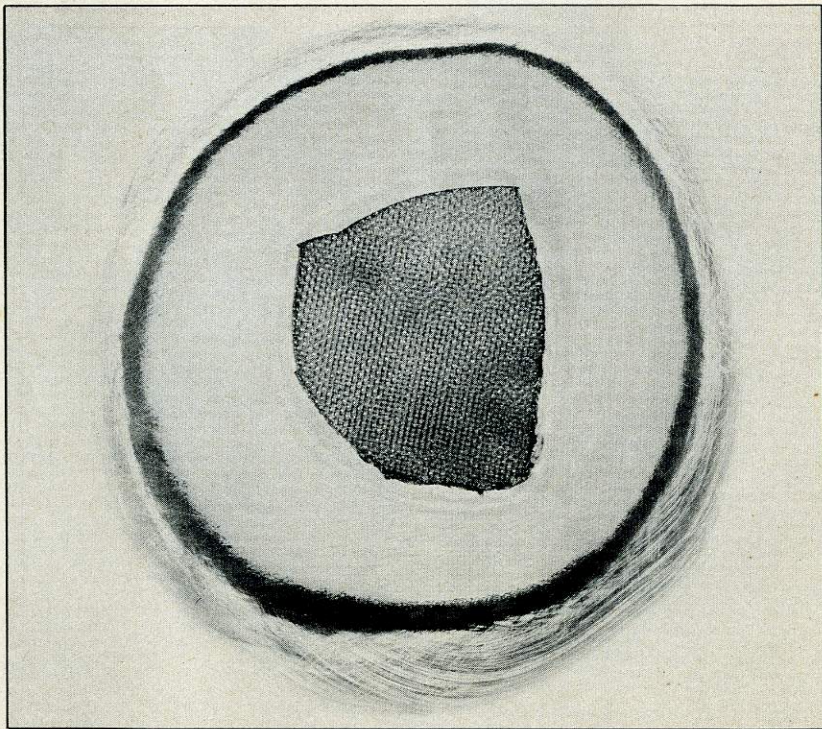

Figure 16
10. Apply the two backup laminations to the underside of the panel (fig. 16).